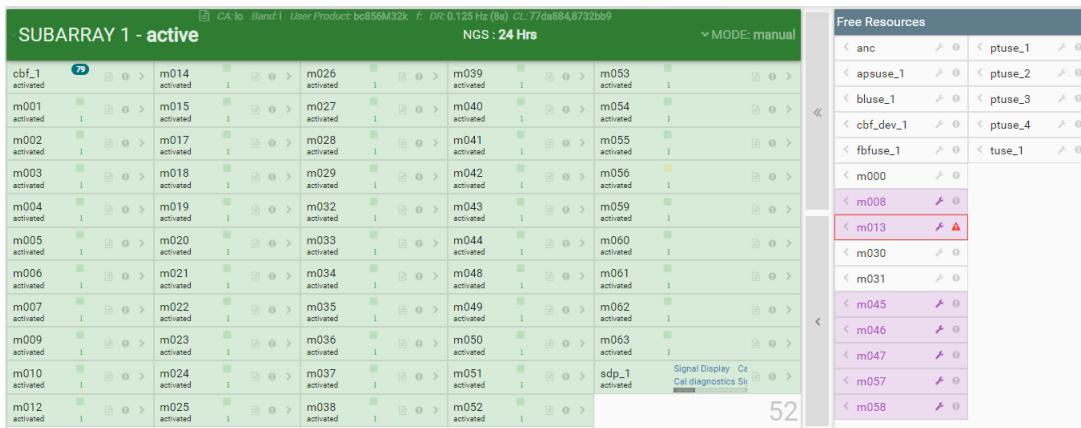

Figure 2.2: CAM GUI Subarray1 window
This will allow one to monitor the telescope system but will not be able to control the system. The person will have to be given the lead operator role (LO) or expert role in order to control the telescope for safety reasons. This page will allow one to access different functionality of the telescope system, monitoring and control i.e. if for instance one is interested in building and running subarray 1, the configuring of a subarray, one will click and open “SUBARRAY1 tab. This page will be shown as in **Figure 2.2** below.